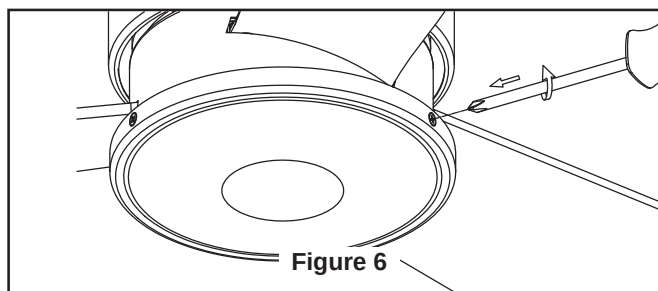

Figure 6
- ☐ 6. Reinstall the hanger ball on the downrod as follows. Route the three 80" wires and cable through the hanger ball. Position the pin through the two holes in the downrod and align the hanger ball so the pin is captured in the groove in the top of the hanger ball. Pull the hanger ball up tight against the pin. **Securely tighten the setscrew in the hanger ball. A loose setscrew could create fan wobble.** (Figure 6)
- ☐ 6. Assemble the switch cup cover onto the assembled switch cup support plate with three screws provided. (Figure 6)